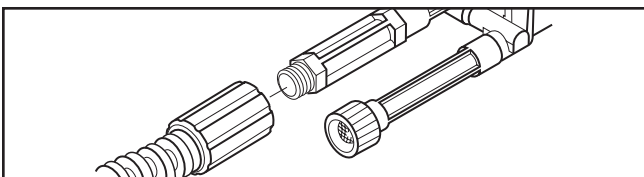

Figure 5: Connect high pressure hose to pump
2. Attach other end of high pressure hose to high pressure outlet on pump (Figure 5). Tighten by hand.